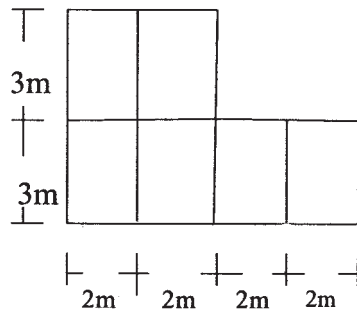

Figure 5.1
**Q5)** Determine the design eccentricity in X-direction for a three storey building as shown in Figure 5.1. The total seismic weight/floor = 500 kN. The column size = 400 mm x 500 mm. Assume grade of concrete = M25. [18]